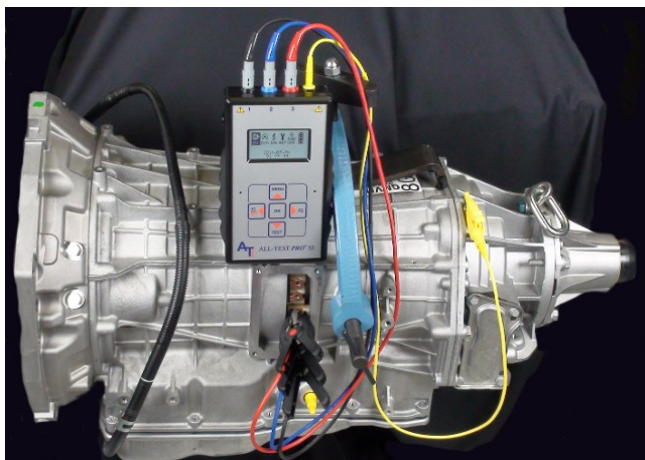
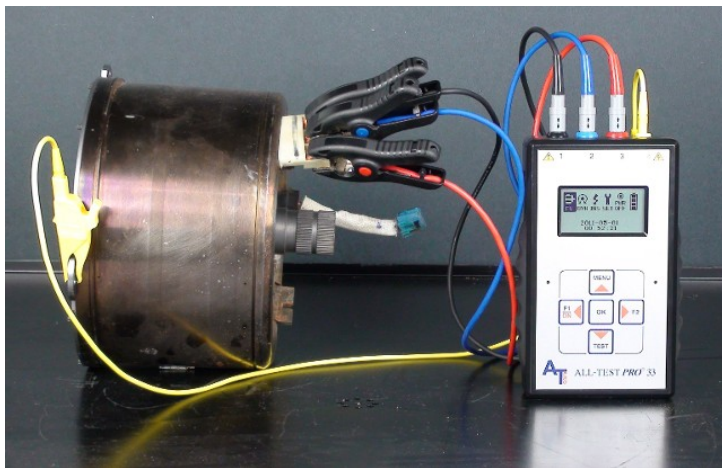

Figure 3. Testing the electric machines with transmission on the bench
Figure 4. Testing an electric machine out of the transmission
1. Some electric machines can be tested with the transmission fully assembled on the bench (Figure 3) or out of the transmission (Figure 4).